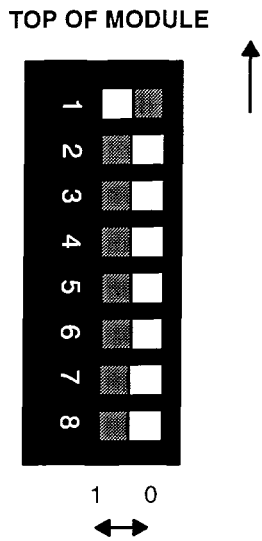

Figure 34 Drop Address Switch Characteristics
- Step 1** Using drop address switch shown in Figure 34, set Drop address as shown in Table 5-1 below. The address is equal to the binary value plus 1. The White portion of the switch in the illustration represents the switch rocker in the set position. In the example below the address is set to 2.